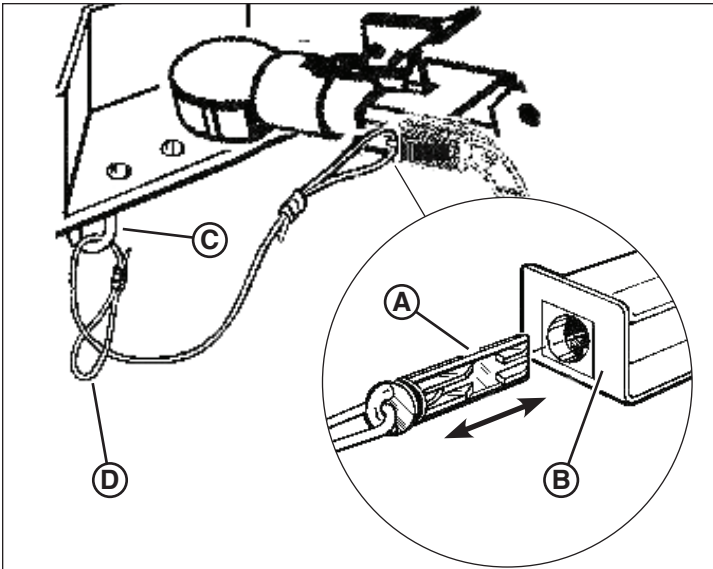

Figure 14
1. Pull the pin (A, Figure 14) out of the break-away brake switch (B).
3. Route the pin through the safety chain pocket (C, Figure 14), then through the break-away brake cable loop (D).